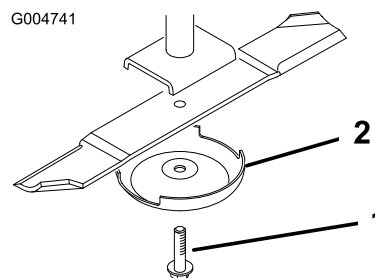

Figure 86
3. Remove the blade bolt, anti-scalp cup, and blade from the spindle shaft (Figure 86).